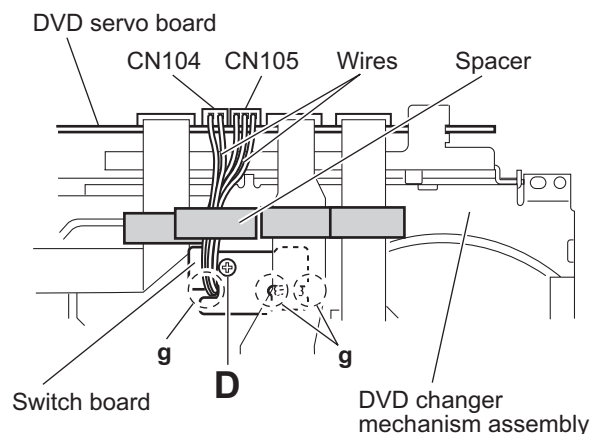

Fig.8
3.2.3 Removing the switch board (See Fig.8)